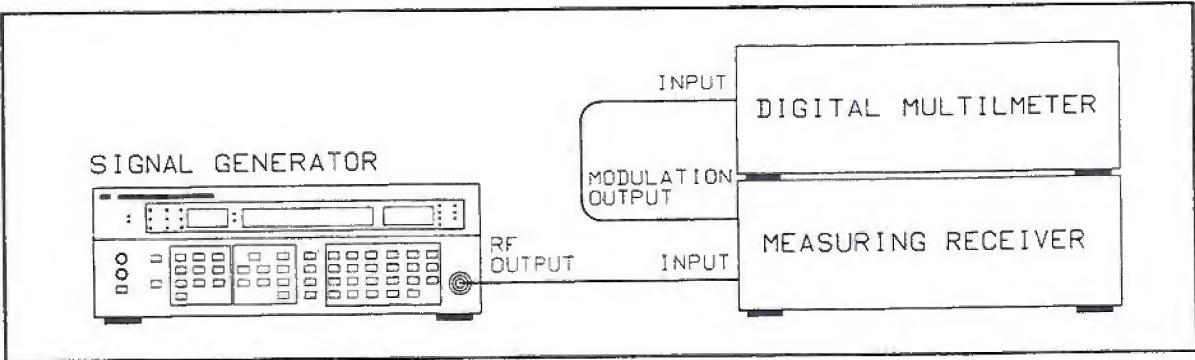

Figure 4-3. Residual AM Test Setup
8. Connect the RF OUTPUT of the Signal Generator to the input of the measuring receiver and the modulation output of the measuring receiver to the input of the digital multimeter as shown in Figure 4-3.